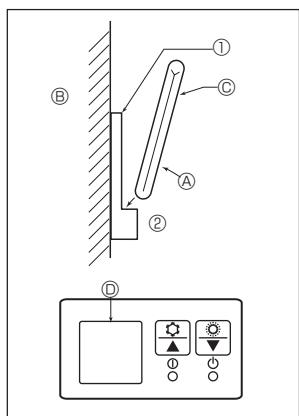

Fig. 6-3
2) Installation method (Fig. 6-3)
- ① Attach the remote controller holder to the desired location using 2 tapping screws.
- ② Place the lower end of the controller into the holder.